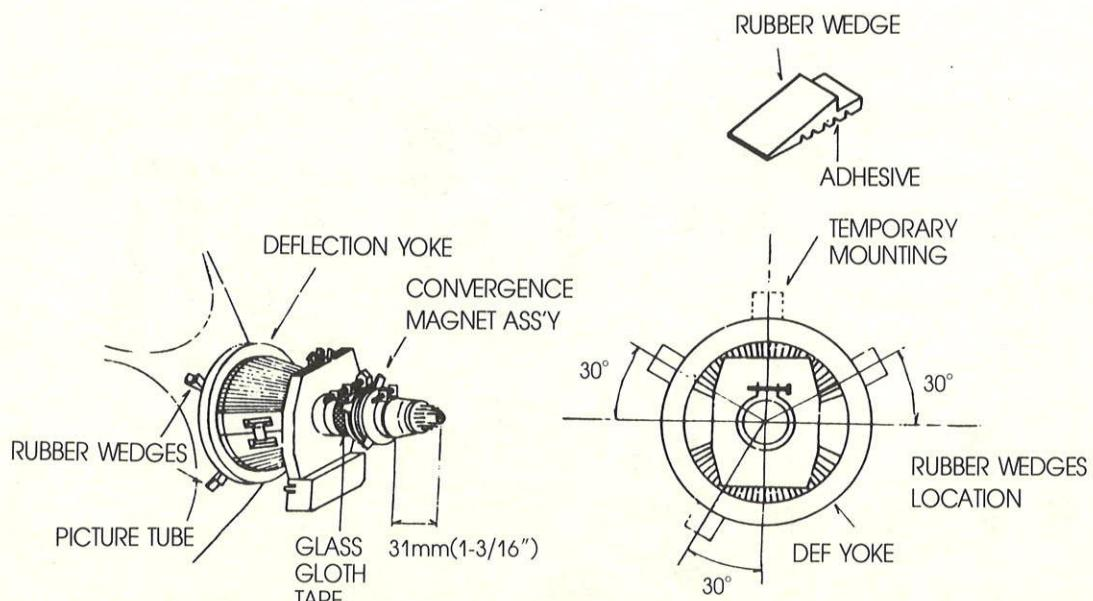

Fig. 3
Convergence magnet assembly and rubber wedges need mechanical positioning following the figure 3.
- b) Place a wedge as shown in figure 3 temporarily. (Do not remove cover paper on adhesive part of the wedge.)
- i) Stick 3 adhesive tapes on wedges as shownen in figure 3.